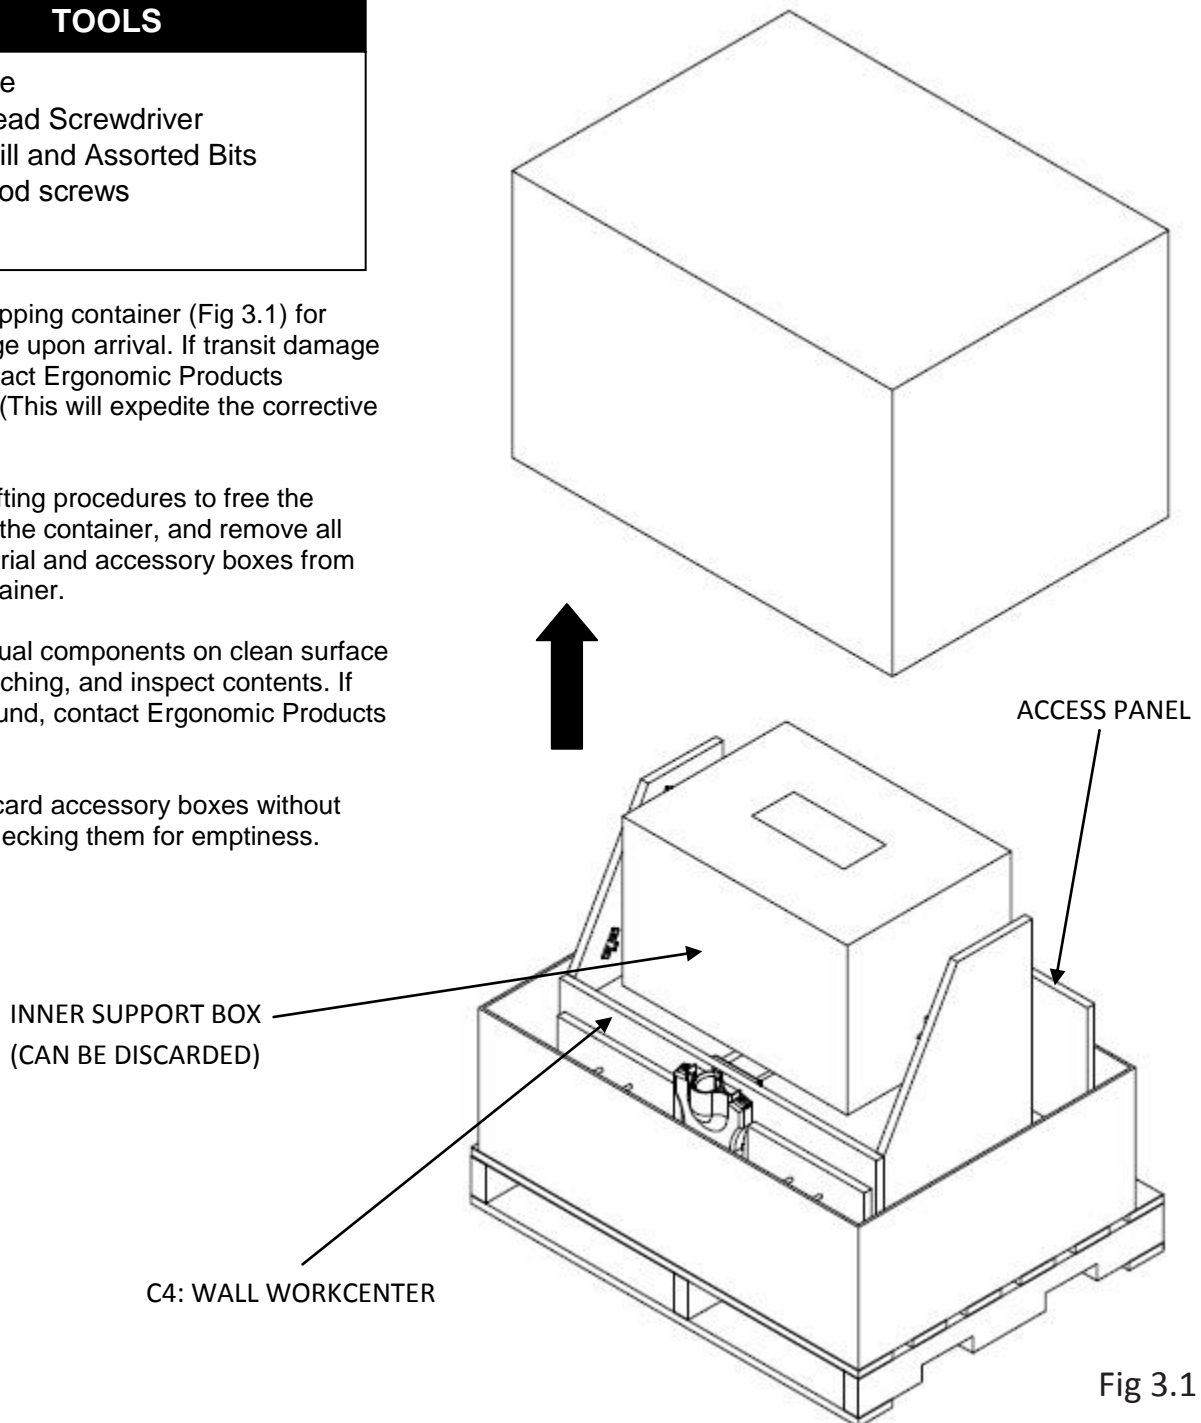

Fig 3.1
1. Inspect shipping container (Fig 3.1) for visible damage upon arrival. If transit damage is found, contact Ergonomic Products immediately. (This will expedite the corrective process).